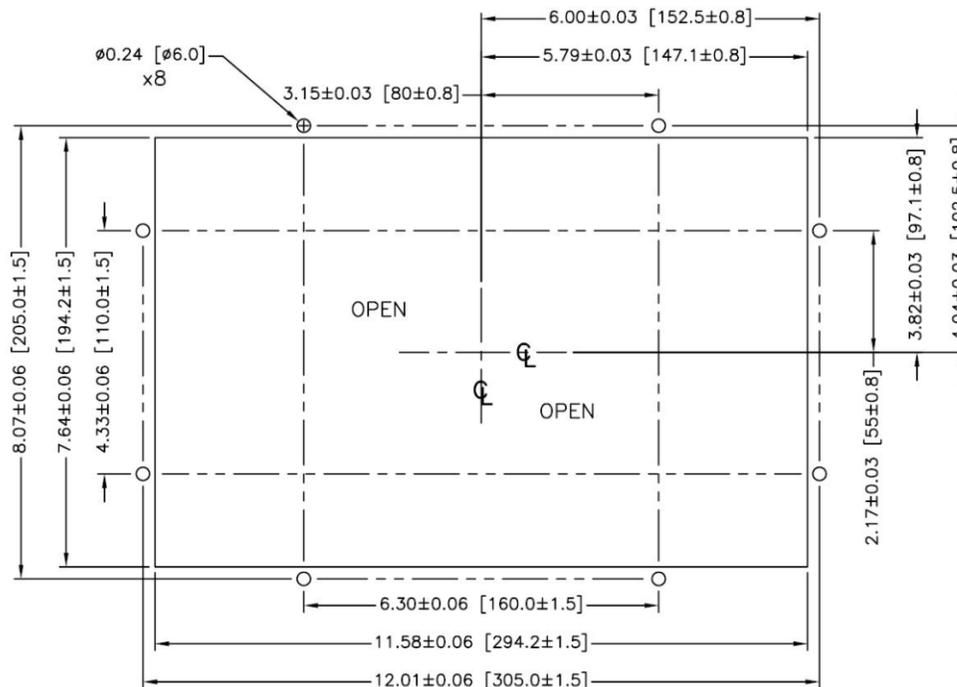

Figure A-5: Panel Cutout Dimensions
1. Cut an opening and holes in the panel or industrial enclosure as indicated in the panel cutout dimensions shown in Figure A-5 in inches and [mm].